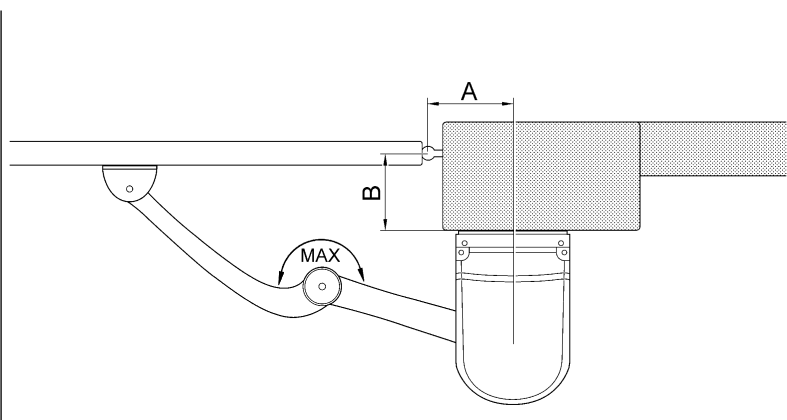

Fig. 5
2.3) Mounting (Fig. 5)
Fasten the leaf mounting bracket to the gate as far away as possible from the post, extending the arms to their maximum reach (**Fig. 5**). The bracket can be welded to the gate or fastened with screws suited to the gate material.